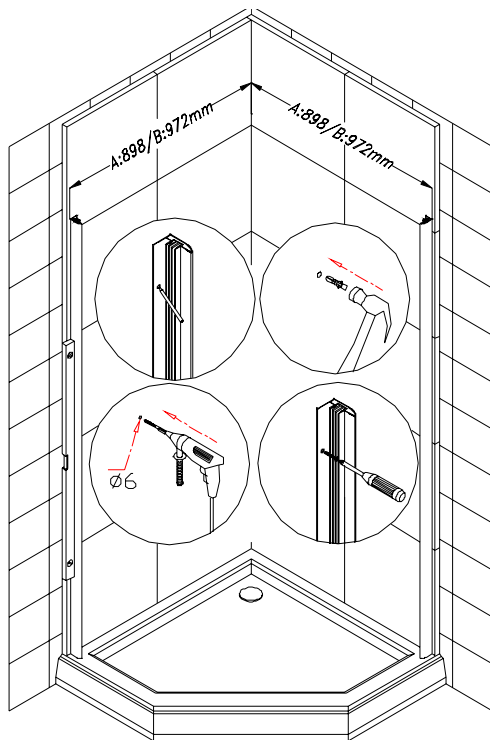

Fig 1
1. You can start installation from any side of the wall. Locate the **wall profile (02)** from the package, then place it vertically above the tray 35 3/4" or 38 1/4" (depending on size of your enclosure) from the corner to the external edge of the profile. Using a level adjust the wall profile upright, then use predrilled into aluminum profile holes to put on marks for drilling. Now drill the holes and insert the **wall anchors (09)** into the hole. Use **ST4.2x30 round head self-tapping screws (12)** to attach the wall profile to wall (fig 1).